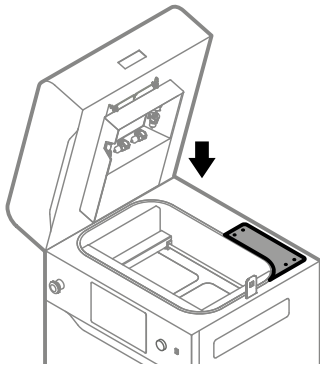

Fig. 12.66. Mount back the access panel.
12. Mount back the access panel on the top side of the printer (fig. 12.66).